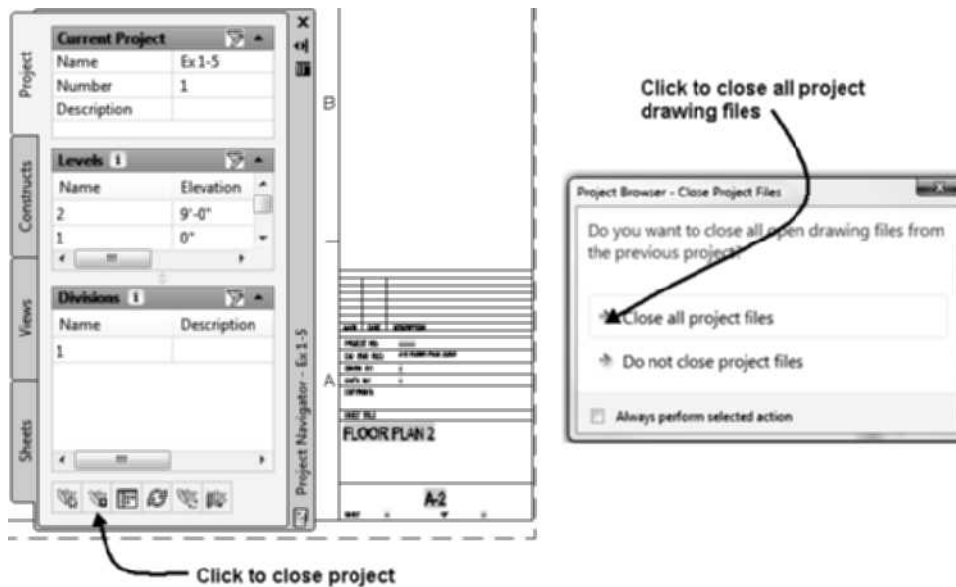

FIGURE 1.89 Closing a project
20. Choose the **Project** tab of the Project Navigator. Select the **Close Current Project** button, shown in Figure 1.89, to open the **Project Browser – Close Project Files** dialog. Choose Close all project files to close all drawings and close the project. Click Yes in the AutoCAD message boxes to Save change to drawings.